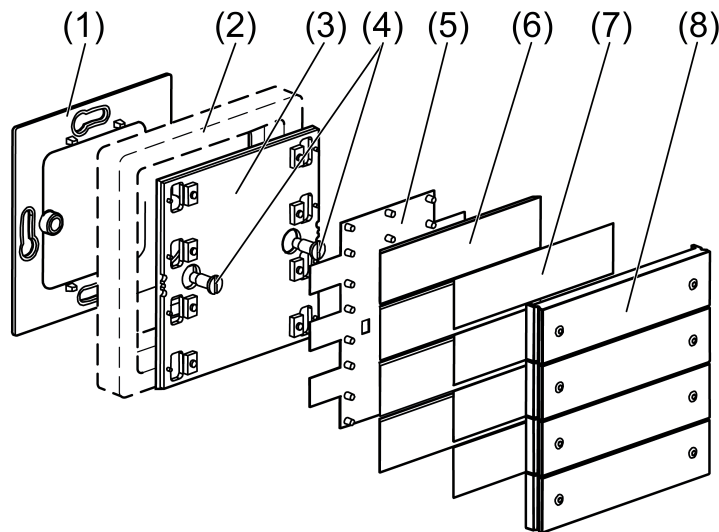

Figure 1
- Using your thumb, carefully push the operating rocker (8) and the labelling film (7) to the right and pull it off using your index finger (Figure 1).
- Pull off the rocker support (6) using the same procedure.
- Raise ESD protection mat (5).
- Carefully release fastening screws (4) using a screwdriver if the wall transmitter has been installed already.